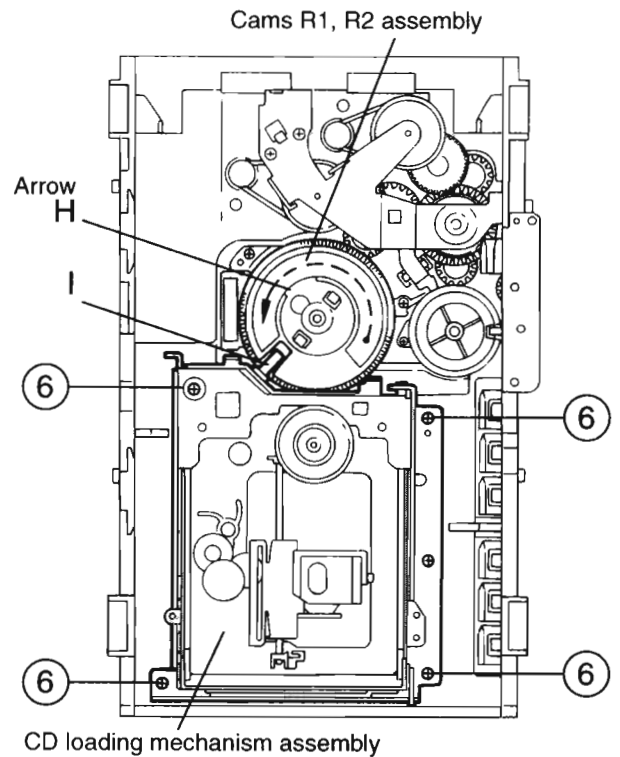

Fig.10
■ Removing the CD loading mechanism assembly(See Fig.10)
1. While turning the cams R1 and R2 assembly in the arrow direction "H" , align the shaft "I" of the CD loading mechanism assembly to the position shown in 2. Fig.10.